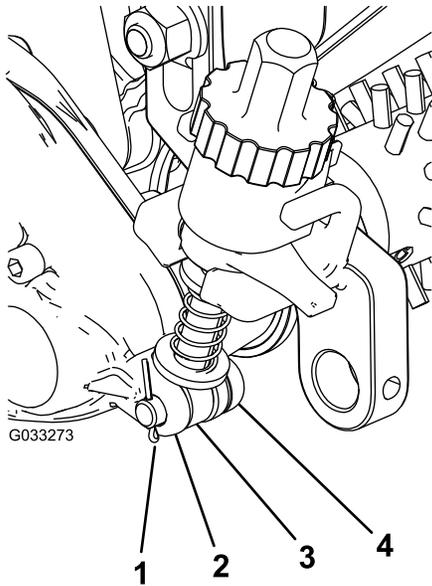

Figure 19
3. Slide the adjuster-arm assembly rod near the groomer drive box into the gap on the drive box and secure it with an adjuster pin and cotter pin (Figure 19).